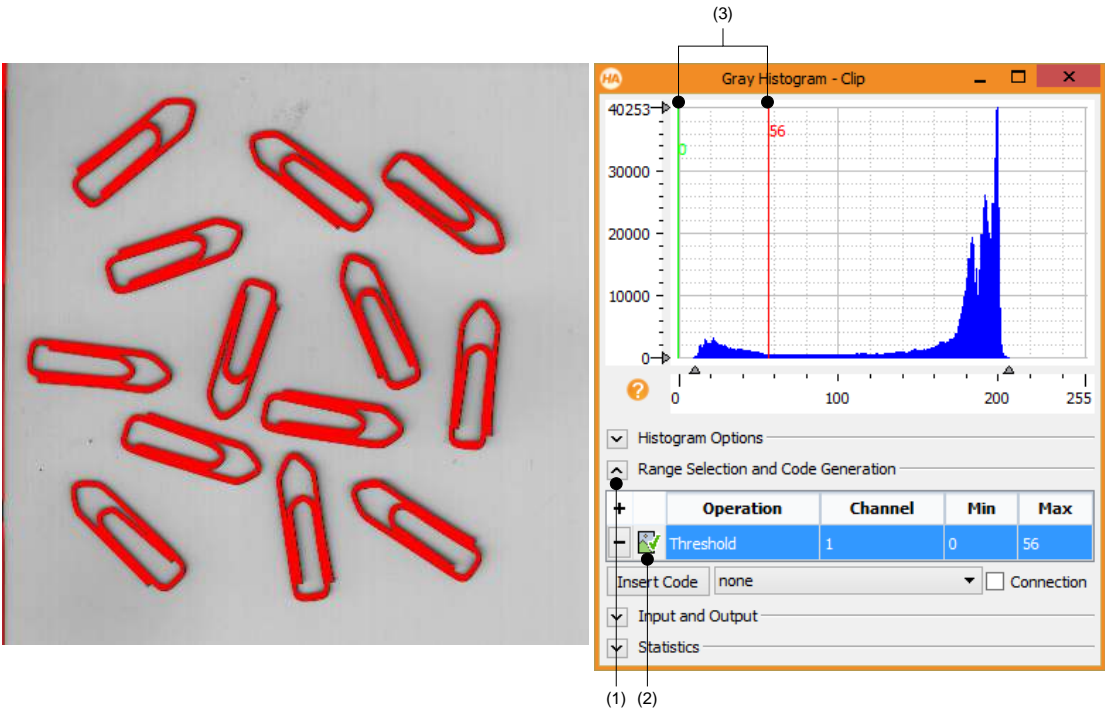

Figure 4.7: Determining threshold bounds interactively using the gray histogram.
Make sure Range Selection and Code Generation is visible in the histogram window (1), see figure 4.7. Select Threshold in the column Operation of the gray histogram window, and click the icon next to Threshold (2) to visualize the operation. Now, you can try different threshold bounds by altering the values in Min and Max or by dragging the lines (3) in the histogram area. Any changes to these values are immediately visualized in the active graphics window. The values 0 and 56 seem suitable for the lower and upper bounds, respectively.